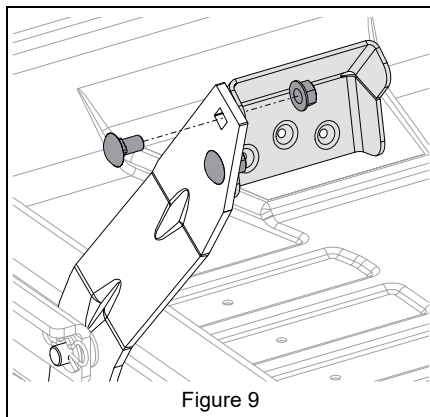

Figure 9
See Figure 9.
2. Rotate pedal as shown in Figure 9 and secure to unit with hardware removed in step 1.